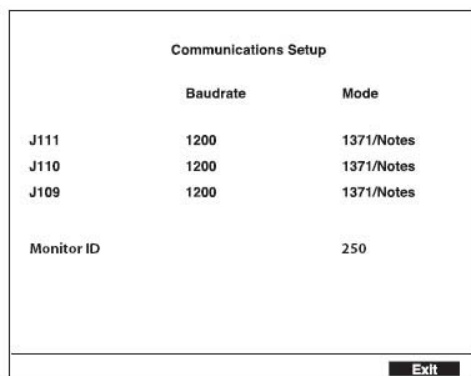

Figure 2-10
7. If any peripherals are installed to communicate to the monitor through RS-232C connectors, use the Trim Knob Control to select the *COMM* softkey on *Install Options Screen 1* to access the *Communication Setup* screen ("Figure 2-10"). Use the Trim Knob Control to set the communication baud rates and modes to be compatible with the external peripheral device and then exit the screen. For more information on *Communication Setup* screen fields, refer to section E.4.